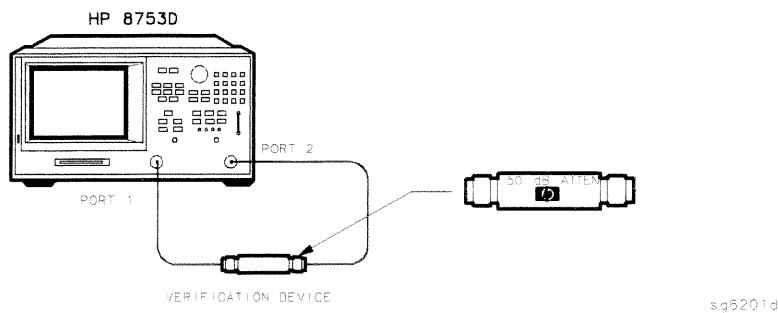

Figure 2-5. Connections for the 50 dB Verification Device
34. When the analyzer finishes all the measurements, connect the 50 dB attenuator (supplied in the verification kit), as shown in Figure 2-5.